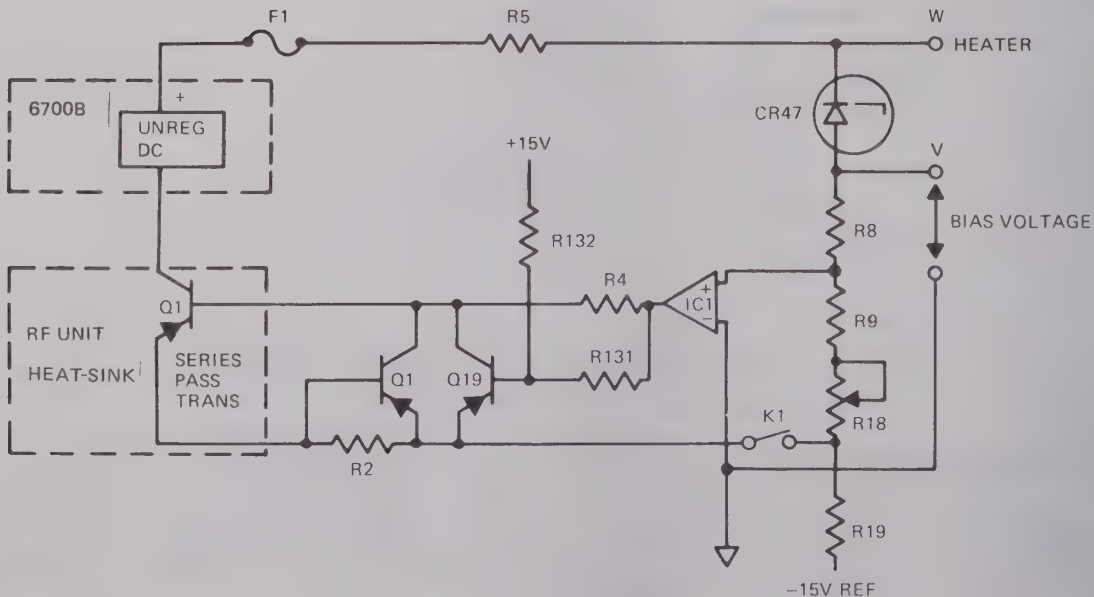

Fig. 13 Simplified circuit diagram of bias supply
42. The bias supply furnishes the power to the Gunn diode or transistor in the r.f. oscillator, as may be the case in a particular r.f. unit. A simplified circuit diagram is shown in Fig. 13. The supply shown here is a "positive output" configuration used in those r.f. units which require a positive voltage with respect to ground. When the circuit is required to supply a negative output voltage, the unregulated supply is connected in reverse and the transistors shown in Fig. 13 are all npn.
59. The remote on/off function is intended to reduce the r.f. output to absolute zero without adjusting any other controls or removal of a.c. line power. This is done by reducing the bias supply voltage to zero. A relay controlled switch, K1, is used to set the reference for the bias supply to zero, as shown in Fig. 13.